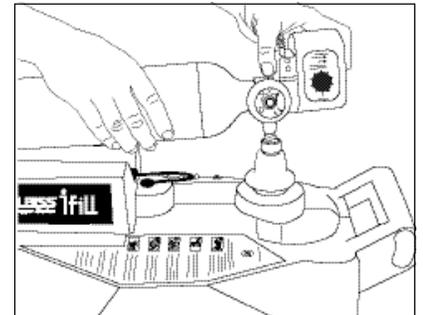

Figure 2
4. Position the cylinder over the cradle while aligning the nipple connector on the oxygen cylinder with the fill connector. Press until cylinder “Clicks” into place (Figure 2).